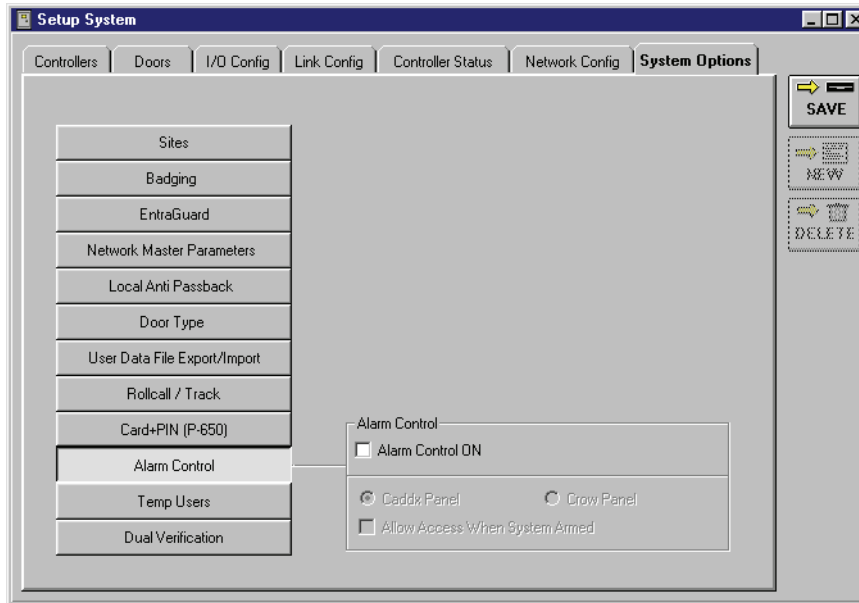

Figure 12-1: System Options Tab - Alarm Control Off
1. To enable Alarm Control, click on the Setup ⇒ System pull-down menu or click the  button on the tool bar. Click on the **System Options** tab followed by the  button. The System Options window should look similar to Figure 12-1.